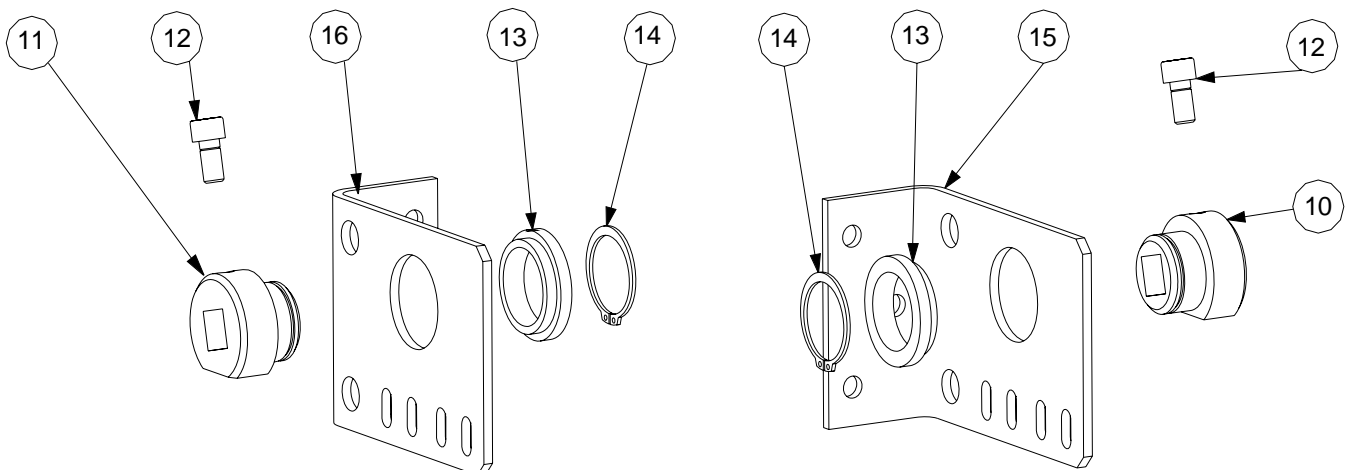

Figure. 4
It must be taken in care during the assembly the fact that the left mounting plate (16) is different than the right one (15). The left support cap (11) is also different than the right one (10). The grooves of the mounting plate will be always at the lower part (See – Fig. 4 –). The plane face of the support caps must remain parallel to the plate grooves and the thread must always look to the lift sling as it is shown at figure 4. The other components can be used either in one side or in the other side.
The nylon tips (**13**) must be introduced in each mounting plate in the way shown at – Fig.4 –, later on, the support caps must be inserted from the opposite side, joining them (with the help of stright-end pliers) through a security ring (**14**). Finally, an M8 x 16 DIN 912 8.8 screw (**12**). Must be introduced in each cap. The whole process is shown at figure.4.